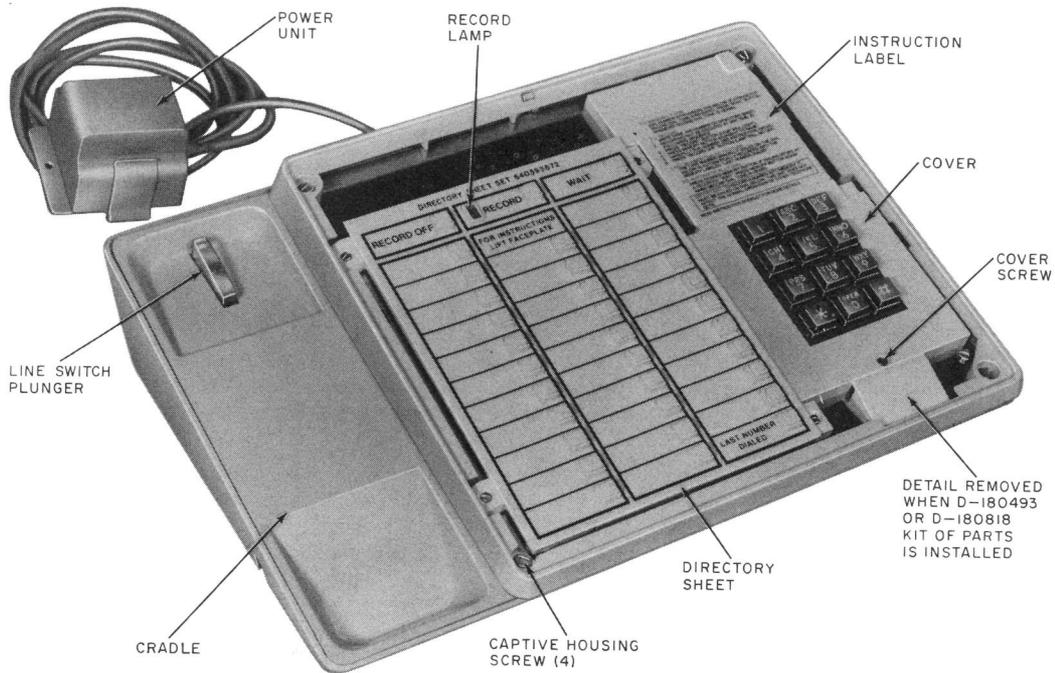

Fig. 2—Telephone Set—Faceplate and Handset Removed
- 3.05** The directory sheets (Fig. 2) fit over the buttons of the Memory and are held in place by the faceplate. Additional sheets are available in the directory sheet set (840393672).
- (5) Make connections per Table C or E.
- (6) Break off the detail at the bottom of the cover (Fig. 2) and trim edge as required.
- (7) Verify correct operation of option.
- (8) Reassemble set.